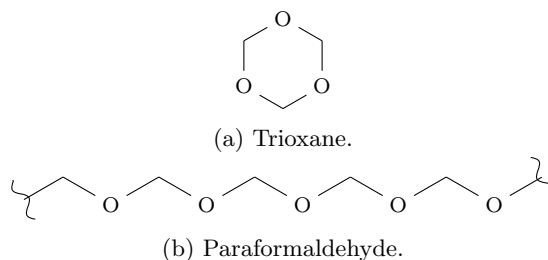

Figure 1.11: Anhydrous nongaseous formaldehyde forms.
- Outside of the gas phase (and aqueous solution), formaldehyde is very unstable; it will either exist as **trioxane** or **paraformaldehyde** (see Figure 1.11).